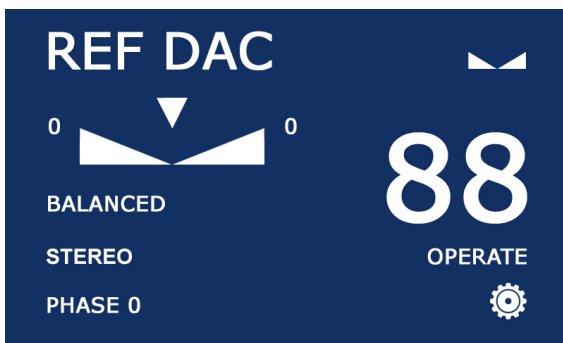

fig. 7
**Balance:** Touch the balance icon located in the top right position of the screen (it appears as a double ramp). The balance slider will appear beneath the input name. Using the rotary control, adjust the balance as needed to right or left channels. When the balance is not at center, a '+' sign will appear to the right or left side of the balance icon indicating to which channel the balance is offset. To re-center balance, either use the rotary control to bring the balance back to center or touch the inverted triangle above the balance slider (fig. 7).